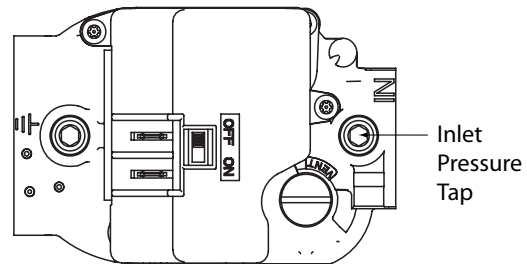

Figure 4. Inlet Pressure Tap Locations
2. Using a 3/16 inch Allen wrench, remove the Inlet Pressure Tap Plug located on the INLET side of the gas valve as shown in Figure 4.